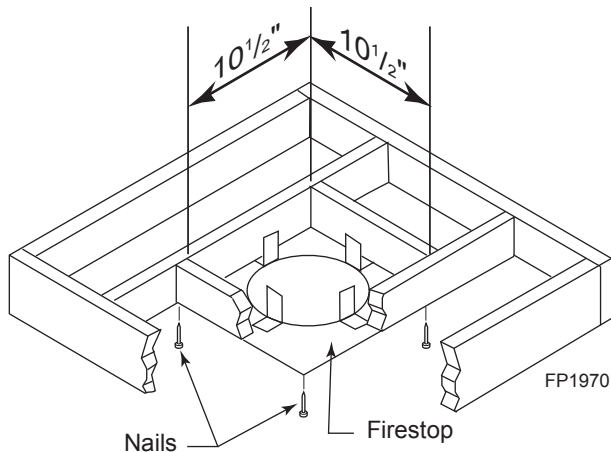

Figure 25 - If Area Above is Not a Room, Install Firestop above Framed Hole as Shown
1. Cut a 10¹/₂" (241 mm) square hole in the ceiling using the locating hole as a center point. The opening should be framed to 10¹/₂"x10¹/₂" (241 x 241 mm) inside dimensions as shown in Figure 25 using framing lumber the same size as the ceiling joist. If the area above the ceiling is an insulated ceiling or a room, nail firestop from the top side. This prevents loose insulation from falling into the required clearance space. Figure 24. Otherwise, install firestop below the framed hole. Figure 25